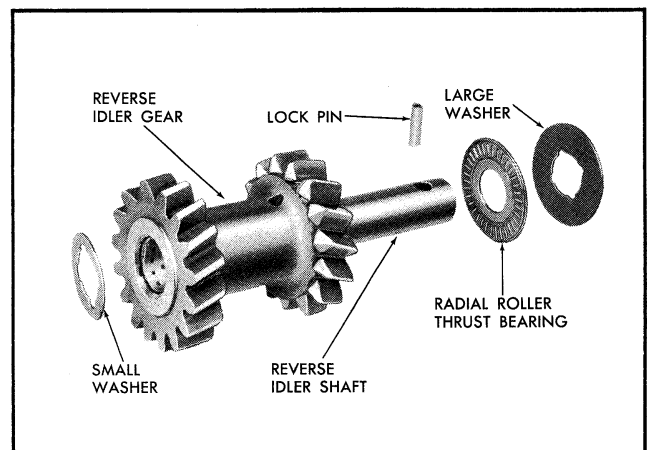

Fig. 7-29 Reverse Idler Gear, Shaft and Thrust Washers
2. Position radial roller thrust bearing against rear of gear (end with chamfered gear teeth) and position large thrust washer against bearing. Position small thrust washer at opposite (front end) of gear (Fig. 7-29).